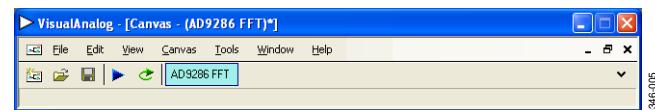
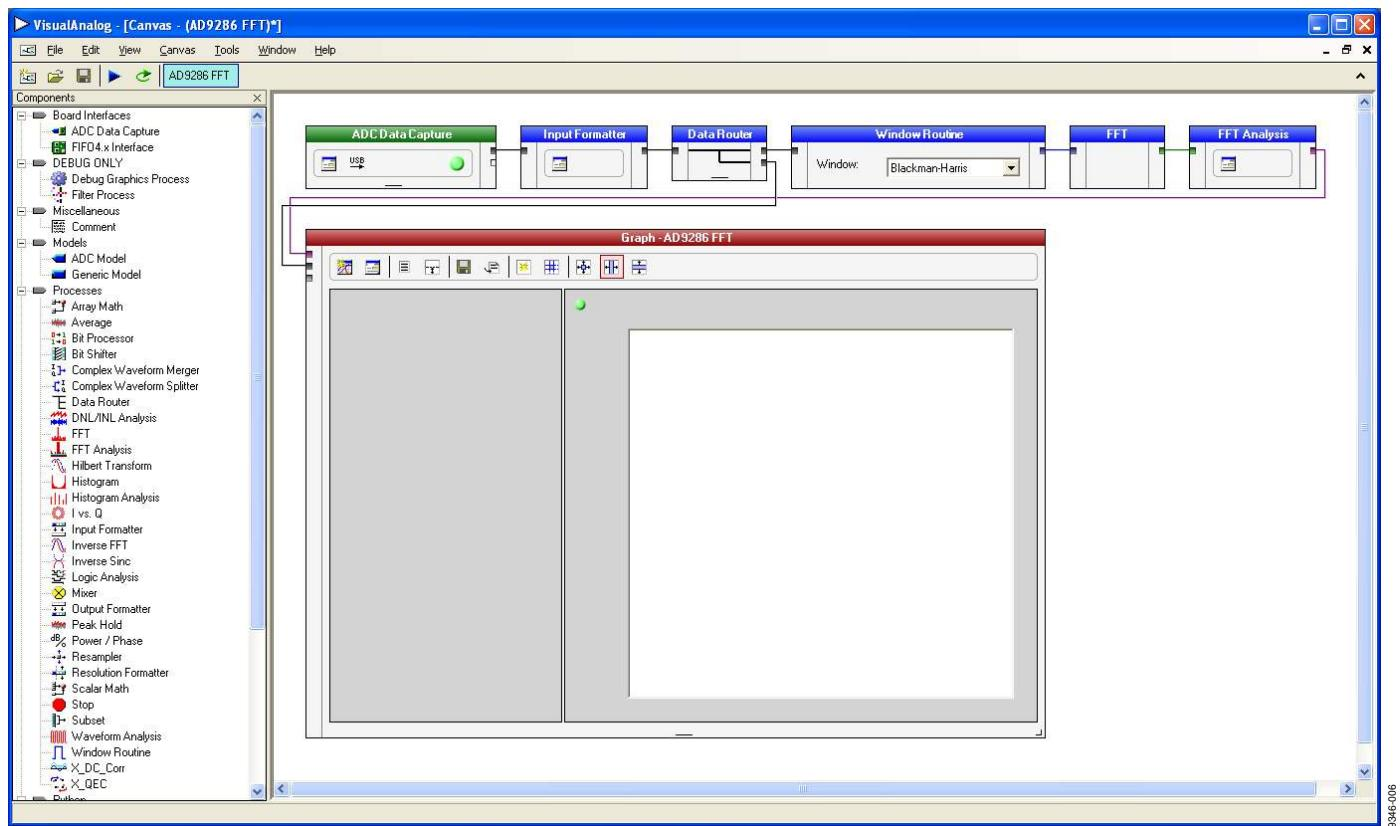

Figure 5. VisualAnalog Window Toolbar, Collapsed Display
Figure 6. VisualAnalog Main Window
3. To change features to settings other than the default settings, click the Expand Display button, located on the bottom right corner of the window, to see what is shown in Figure 6. Detailed instructions for changing the features and capture settings can be found in the AN-905 Application Note, *VisualAnalog Converter Evaluation Tool Version 1.0 User Manual*. After the changes are made to the capture settings, click the collapse display button (see the collapsed display in Figure 5).